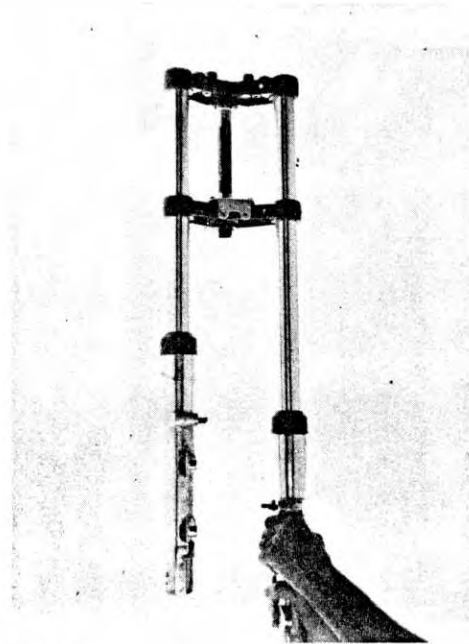

Fig. 162
- Sfilare i foderi dalle canne (fig. 162).
- Remove the fork legs from the stanchions (fig. 162).